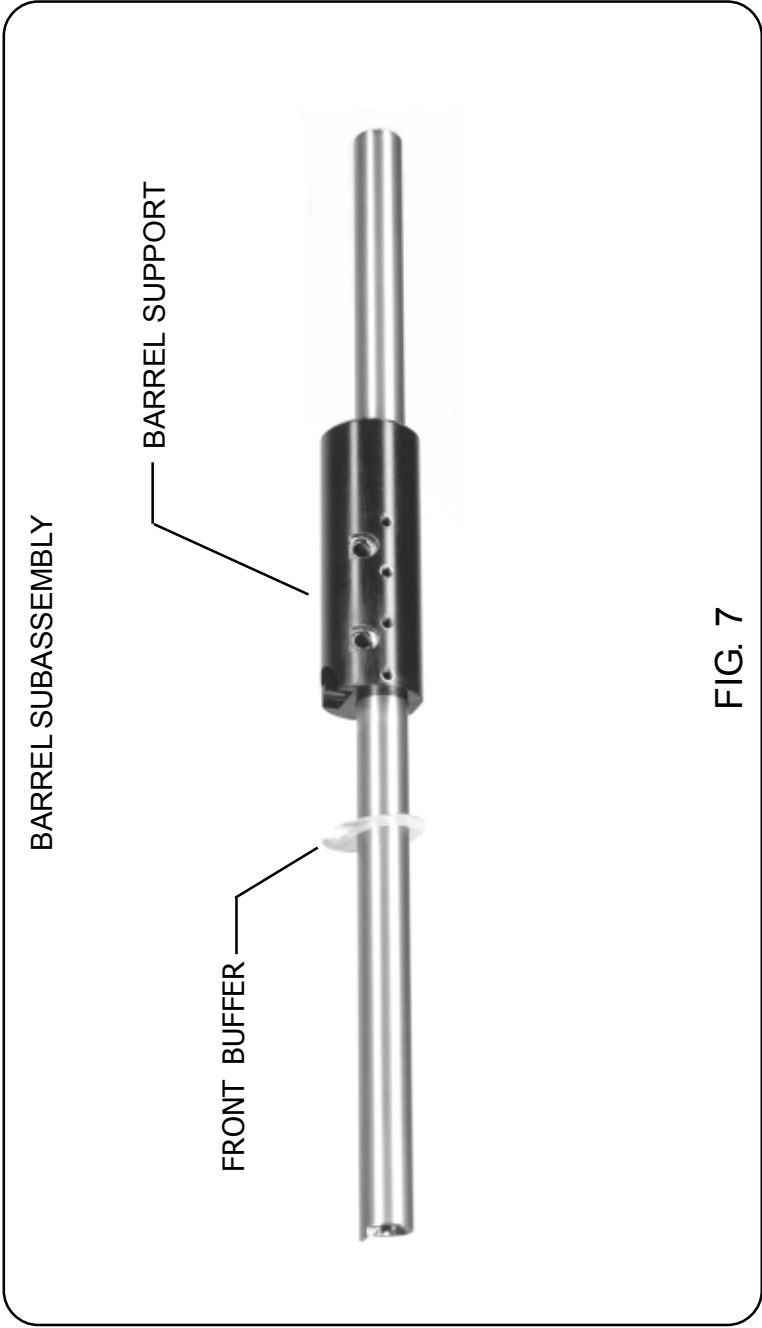
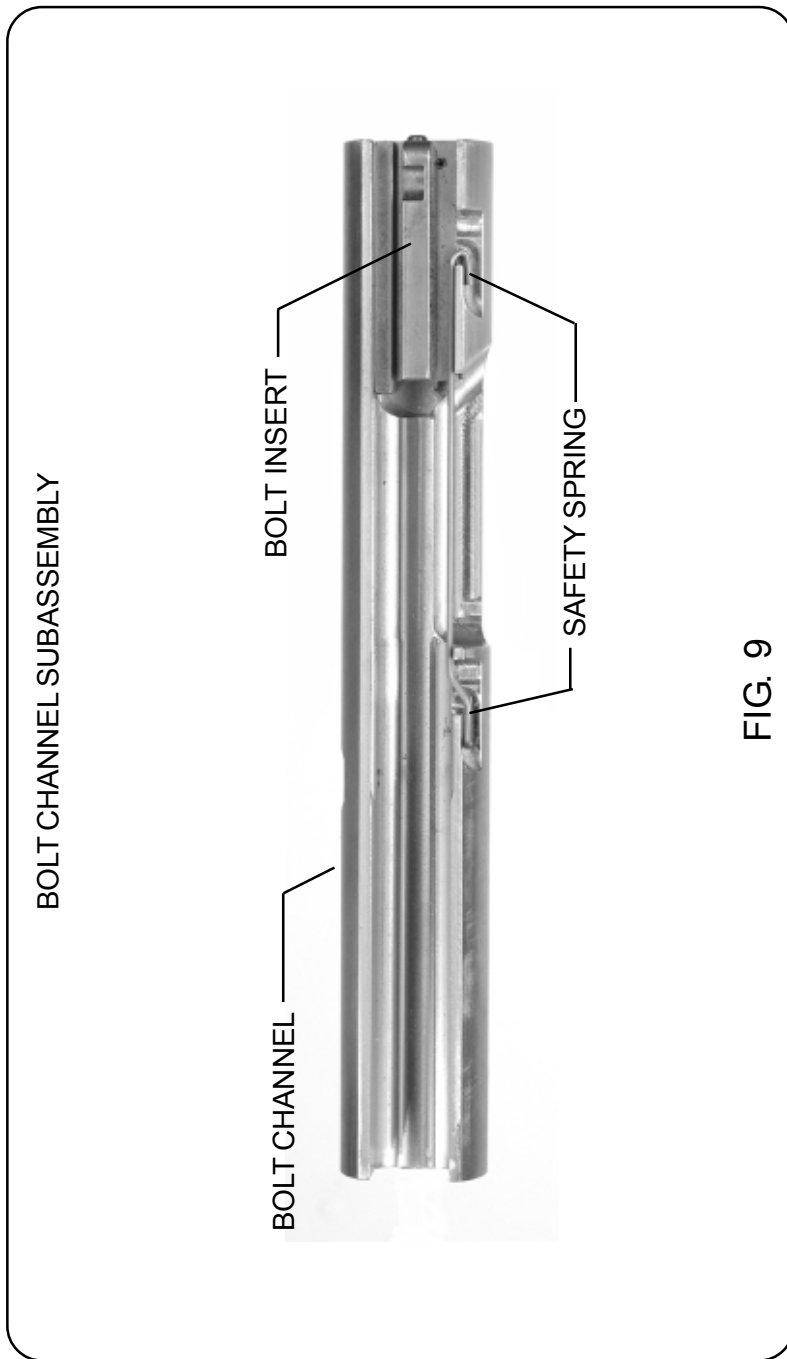
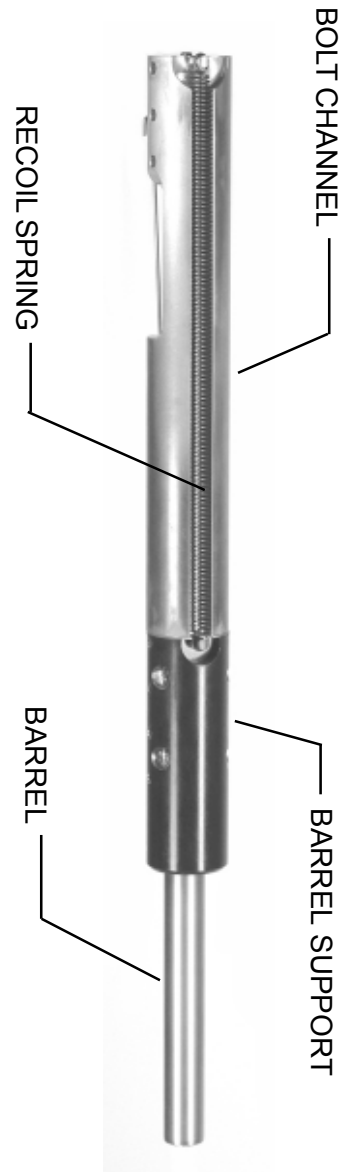

FIG. 7
FIG. 9
FIG. 6
There is a safety device designed into the CCU (Fig.9) which prevents the installation of a lower unit into the CCU with the bolt in the closed position. The reason for this device is to prevent an accidental discharge in the event that a live round is in the chamber at the time of assembly. Of course it is possible to defeat about any mechanical device and therefore Mech-Tech stresses that the rules of safety take first place. **Earlier in these instructions is stated the requirement to open and lock back the bolt before any assembly or disassembly activity begins.** Follow the safety rules and there won't be a hole where one is not wanted!
- Barrel subassembly (Fig.7)
- Bolt subassembly (Fig.9)
Note that the barrel and bolt subassemblies are removed simultaneously and are connected together by the recoil spring (Fig.6). Care must be taken to grasp these two subassemblies as they are withdrawn from the housing so as to insure that they stay together until both hands are available to separate them.
In this case the bolt will move the barrel out of the housing. Back to the normal way. As the bolt/barrel subassemblies are withdrawn from the main housing, the junction between the bolt and the barrel support will become visible (see FIG.6). Continue the withdrawal until about 3 inches of the bolt is showing. At this point change your grip such that the hand which was pulling on the barrel now grips the two assemblies right over or slightly to the rear of the junction and then continue to withdraw until everything clears the housing. Set down the housing while maintaining a solid grip on the bolt/barrel subassemblies. Don't loose control or the bolt and barrel subassemblies will part company, the recoil spring will suffer damage, and stuff will fly all over the place!
With the housing set down, both hands are free to deal with the bolt/barrel subassemblies. If you are right handed, the bolt/barrel subassemblies will be in your right hand with the barrel pointing to the right. Use your left hand to firmly grip the rear 3 inches of the bolt, trapping the recoil spring under the palm. Work the right hand position slowly toward the muzzle while maintaining the fingers wrapped around the barrel support (FIG.6). Maneuver the right hand such that the right thumb is pressing against the top of the recoil spring retaining post on the barrel support.
At this point the three basic subassemblies should be separated. To review please refer first to FIG.7 which is the barrel subassembly. Note the front buffer and be certain to have this part in position against the support when re-assembly begins. The barrel and barrel support should not be separated. These parts are assembled using special fixtures and there should be no need to separate them. If the situation arises where the support or barrel are damaged, the subassembly should be sent intact back to the factory for remedy. Refer now to FIG.6 which shows the barrel subassembly and the bolt subassembly held together by the recoil spring. After these have been separated by the techniques outlined above, what is not shown in FIG.7 constitutes the bolt subassembly.
- 1) the main bolt channel (FIG.9)
An extremely important component is the safety spring - see FIG.9. This component is precision formed from steel spring wire. It is a deceptively simple part considering the important role it plays in the system. The spring is held in place by an 'L' bend at the front end. The 'L' simply slips into a hole drilled in the bolt channel. As shown in FIG.9 the spring is lying flat in the bolt channel with the hairpin loop at the rear end surrounding a projection machined into the channel. This is NOT the way it is when the channel is removed from the unit - it is shown in FIG.9 lying flat for clarity as to how it relates to the channel when the channel is installed in the main housing. In reality the spring has a set in it such that when the 'L' is in place in its' hole the rear end hairpin loop is raised away from the channel by about 1/2" - totally clearing the projection mentioned above. Make certain to observe this when first dissassembling the unit. The spring could actually fall free from the channel when the channel is removed from the housing. Upon reassembly it is important to position the spring with the loop engaging the projection as shown in FIG.9 and hold it in this position while slipping the bolt/barrel assembly (FIG.6) back into the housing. Once the channel is in the housing the spring cannot escape. The function of this spring is discussed in the 'Operation' section of this manual.